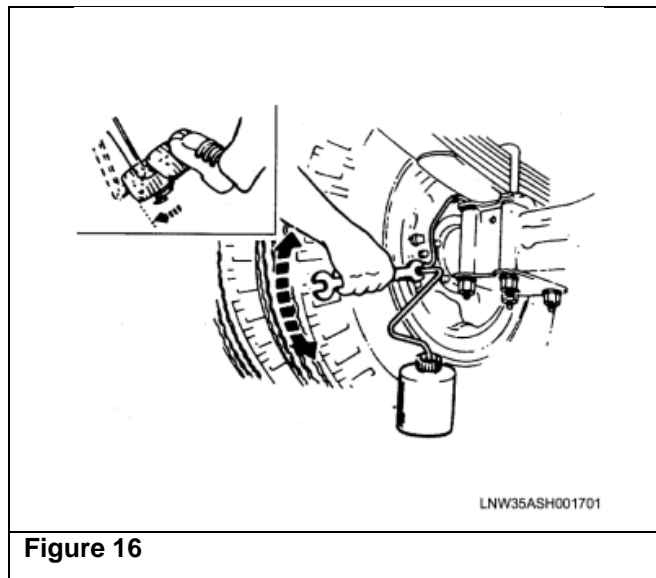

Figure 16
38. Open the bleeder screw about one-half turn and fully depress the brake pedal. Observe flow from the hose. (See Figure 16.)